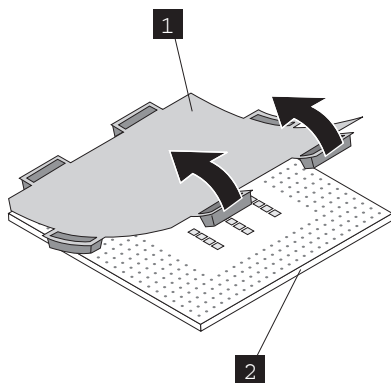

Figure 303. Removing the plastic protective cover from a microprocessor
- e. If a plastic protective cover is on the bottom of the microprocessor, carefully remove it, as shown in Figure 303 on page 367.